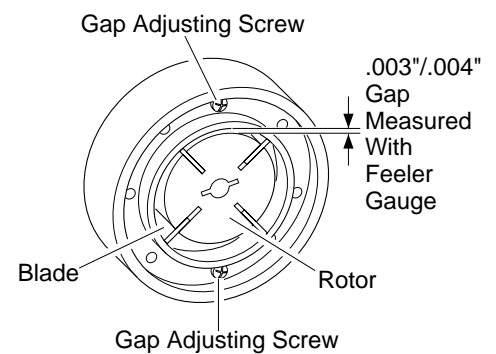

Figure 29 - Gap Adjusting Screw Locations
9. Check gap on rotor. Adjust to .003"/.004" if needed (see Figure 29).